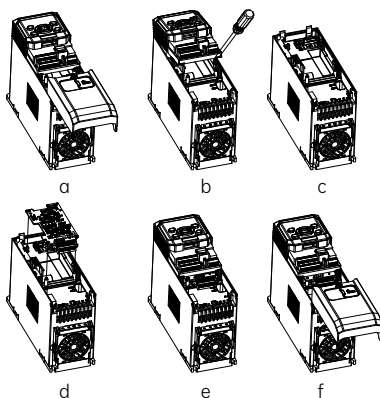

Fig. 2-3 Position 1 - PG card installation steps
(1) When the drive is powered off, press the granulated part on the middle-upper of the lower cover, and slide it down firmly to take down the cover, as shown in Fig. 2-3 a.
(2) Use a straight screwdriver to pry open the two snap-fit joints between the control box and the drive, and then remove the control box upwards, as shown in Fig. 2-3 b and c.
(3) Install the PG*2S card: Hold the PG*2S card with its terminal block downwards, then align the three round holes on the PG*2S card with the location column, and press down to buckle the PG*2S card firmly into the four snap-fit joints, as shown in Fig. 2-3 d.
(4) After the PG card is installed, align the control box with the snap-fit joints, and press down the control box to make its lower part firmly buckled, then slide the lower cover to lock it on the drive, as shown in Fig. 2-3 e and f.